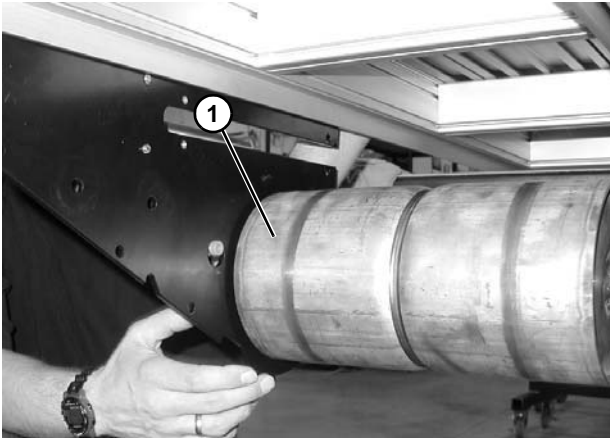

Figure 123
11. Slide drive pulley (Figure 123, item 1) out of attached side plate.